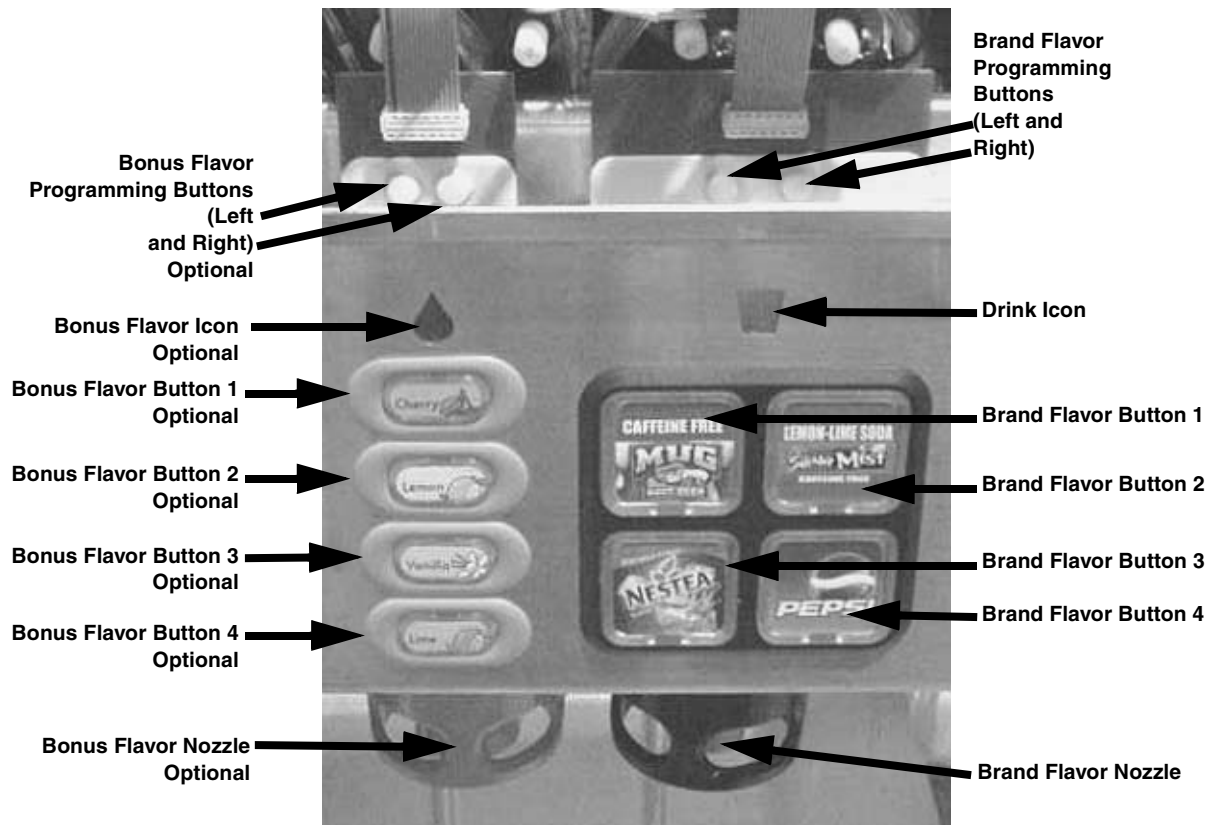

FIGURE 4
To enter the programming mode, press and hold the two program buttons (see FIGURE 4) at the top of the keypad for approximately 4 seconds. All keypad LEDs will flash off for approximately 1 second to indicate the start of the programming mode.
1. Enter programming mode for the valve block by simultaneously pressing and holding both programming buttons for 4 seconds (see FIGURE 4). The LED's for flavors 1-4 should flash off and then back on. The drink icon should turn off.